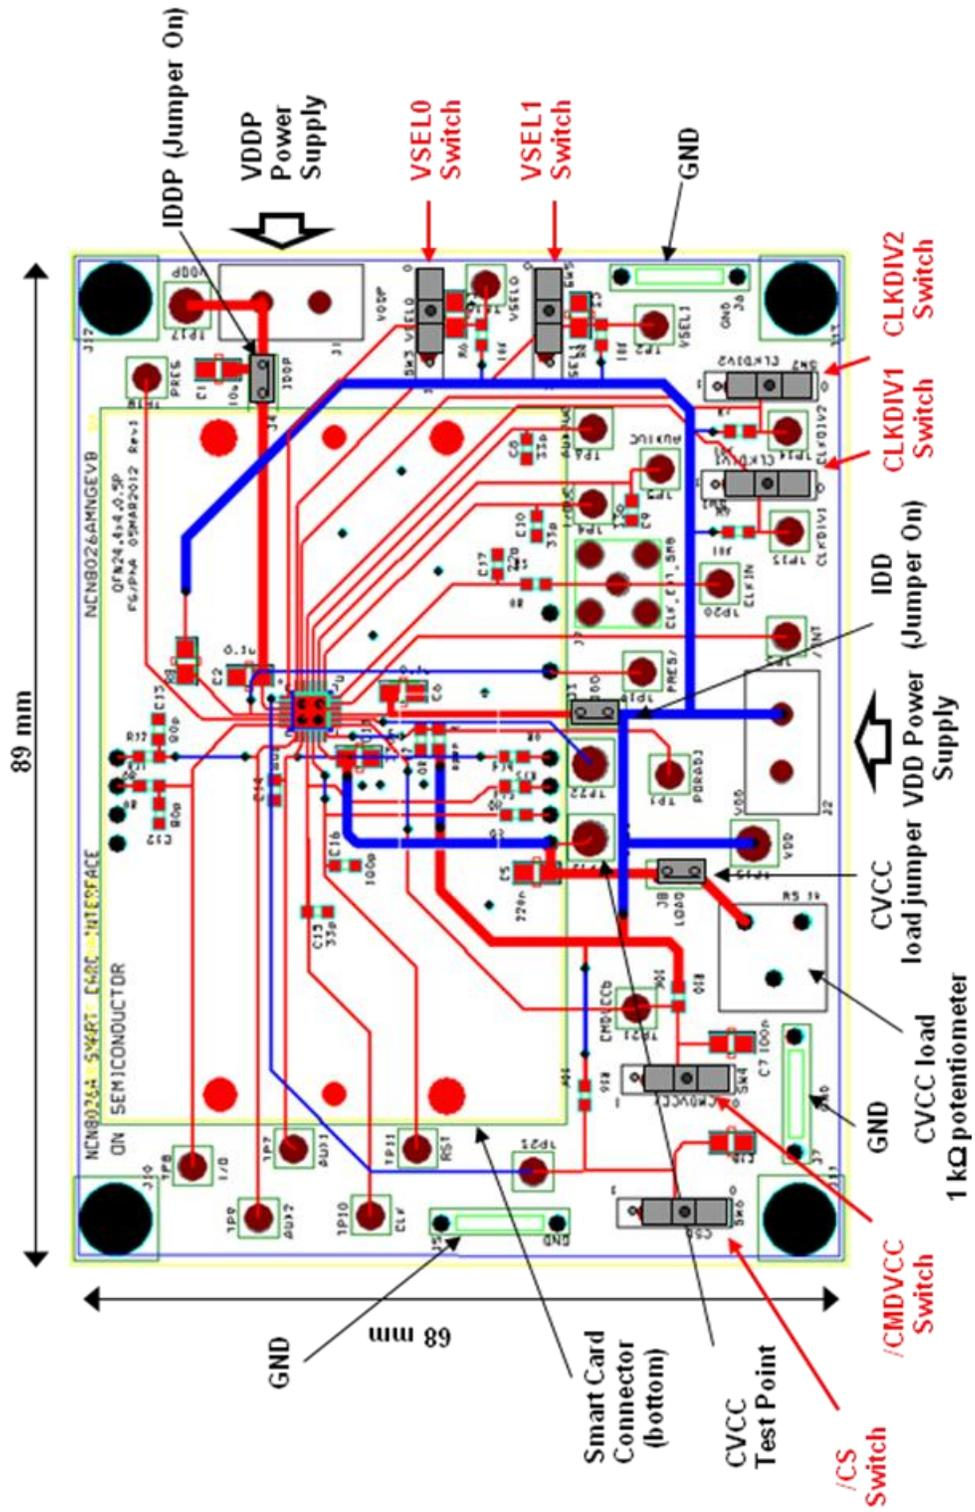

Figure 2: Board Description
- VESL0 and VSEL1 are used to change the output CVCC (card power supply) or the smart card interface mode which can be 1.8V, 3.0V or 5.0V. Change VSEL0 and VSEL1 using the switches (see Figure 2) according to Table 2 below. When VSEL0 = 0 then VSEL1 is in the mode 5V/3V $\bar{b}$ ar, when VSEL0=1 then VSEL1 is in the mode 1.8V / 3V $\bar{b}$ ar. The initial setup can be VSEL0 = 0 and VSEL1 = 1 for selecting the 5V mode. The CVCC output voltage can be changed on the fly when the smart card interface is active (/CMDVCC = Low). Nevertheless, it is recommended to change CVCC after having deactivated the device then reconfiguring CVCC by setting the appropriate VSEL0 and VSEL1 and reactivating the smart card interface.